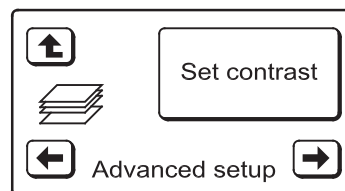

FIG. 27
4. Press the **LEFT** (←) button twice to display the screen shown in Figure 27.